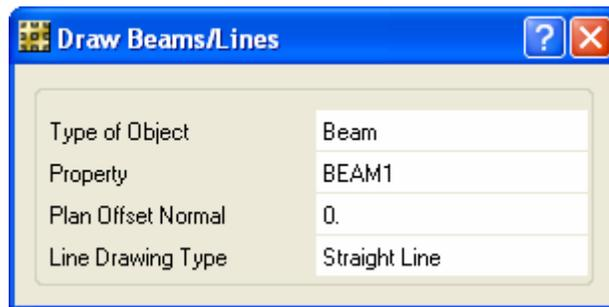

Figure 28 Draw Beams/Lines form
- A. Click the **Draw menu > Draw Beams/Lines** command to access the Draw Beams/Lines form shown in Figure 28.